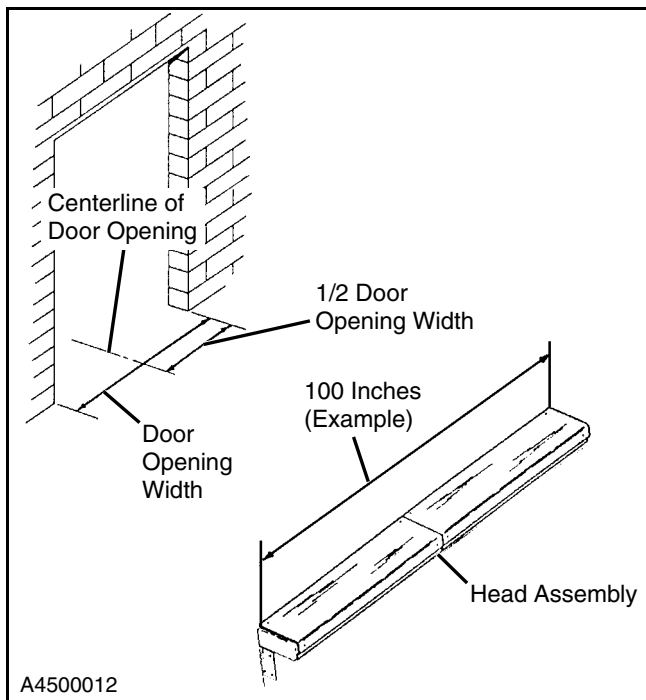

Figure 7
1. Measure the door opening width in inches. Divide the width by two to obtain the centerline dimension. Mark the floor at the centerline. (See Figure 7.)